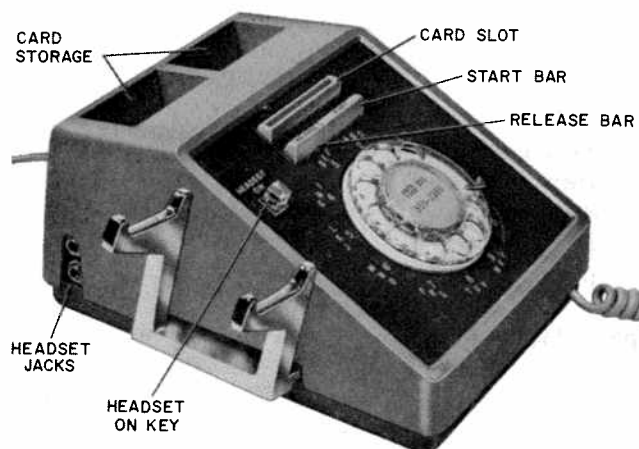

Fig. 2—663-Type Telephone Set
**2.08** The 663A1 set is equipped with an amplifier and headset jacks to permit either handset or headset operation (Fig. 4). The HEADSET ON key is located at the top left of the faceplate (Fig. 2). No provision is made for exclusion in these sets.